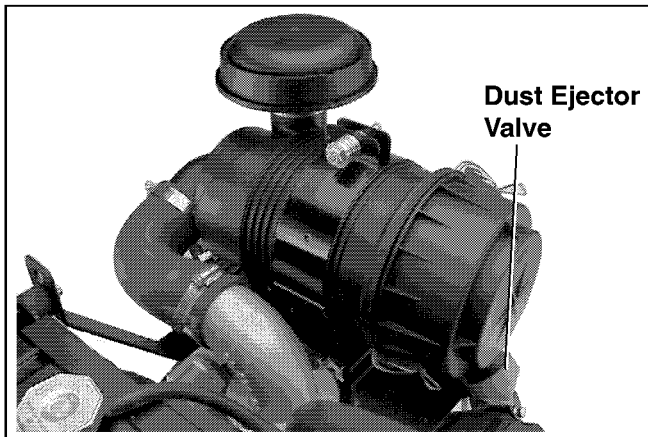

Figure 17. Air Cleaner Assembly.
7. Reinstall the end cap so the dust ejector valve is down and secure with the two retaining clips. See Figure 17.